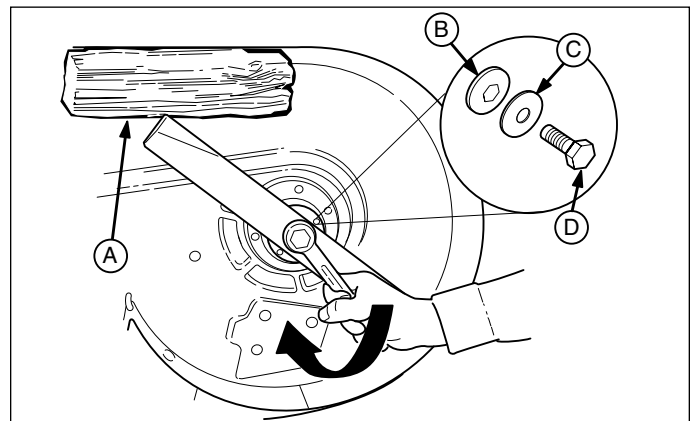

Figure 29. Blade Installation - 44", 50" Mowers
3. **44", & 50" Mowers:** Remove the capscrew (D, Figure 29), spring washer (C), hex washer (B), and blade.
7. **44", & 50" Mowers:** Reinstall the hex washer (B, Figure 29), spring washer (C) and capscrew (D). Use a wooden block (A) to prevent blade rotation while tightening the capscrew (D) to 61-75 N.m (45-55 ft. lbs.).